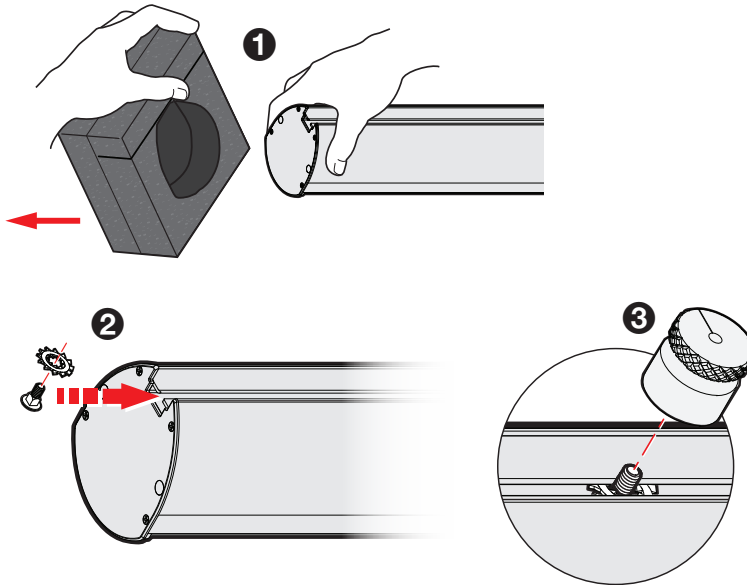

Figure 7. Slide Carriage Bolts into T-slot and Secure Knurled Knobs
2. Brace the top end of the speaker with your hand as you remove the top foam cap (see figure 7, ①).
3. Slide two included carriage bolts and washers into the T-slot (②), and place the foam cap back on the speaker.
4. Screw the two Primary Knurled Knobs onto the two carriage bolts (③). Do not tighten. The knobs need to be loose enough to slide up and down the T-slot.